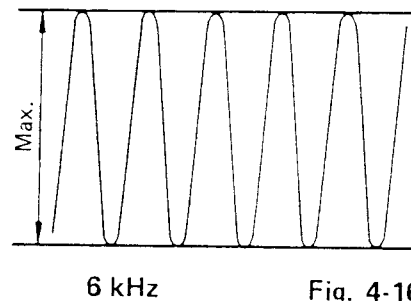

Fig. 4-16
5. Adjust screw (C) to obtain maximum audio output level (Fig.4-16/17)
7. Adjust screw (B) to obtain maxium audio output level. (Fig.4-16/17)